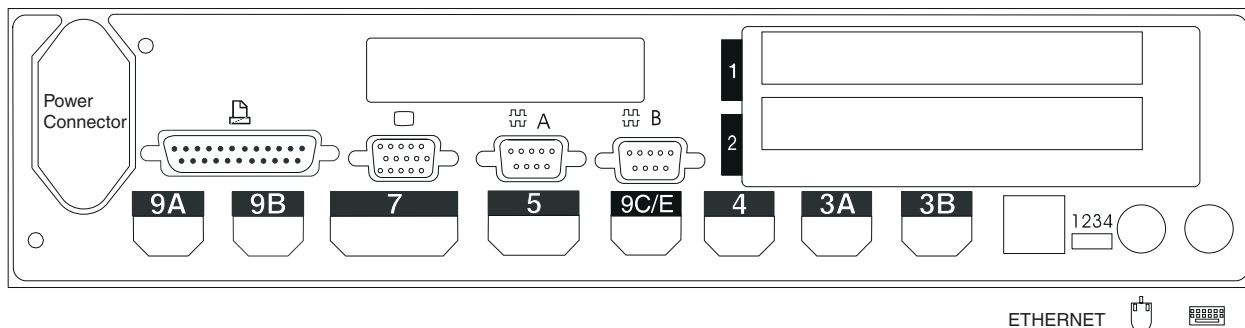

Figure 105. Rear of 4694-2x4 or 4694-2x5 Point-of-Sale Terminal
10. Mark an X on Figure 105 to indicate the sockets in which POS devices are connected.